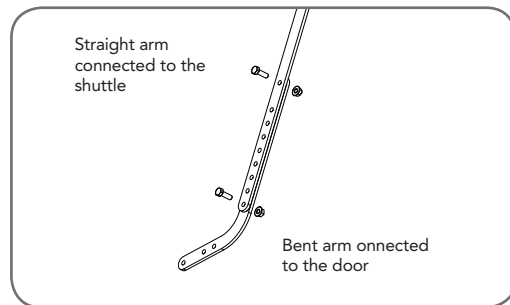

fig 23
- Assemble the bent arm (connecting to the door) to the right side of the straight arm (connecting to the shuttle) with bolts and nuts supplied in the accessory pack (**Fig. 23**). Always use both bent and straight arms.